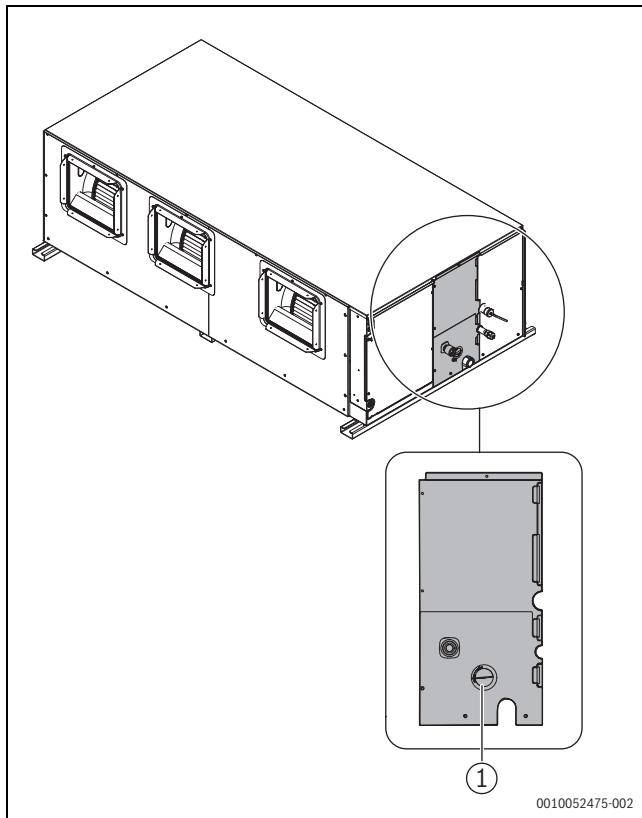

Fig. 27
- ▶ Open the test water cap (→ Fig. 27) on the machine body needs to be unscrewed during the drainage test to check whether the drainage pump is turned on and whether there is a problem with the drainage pump.